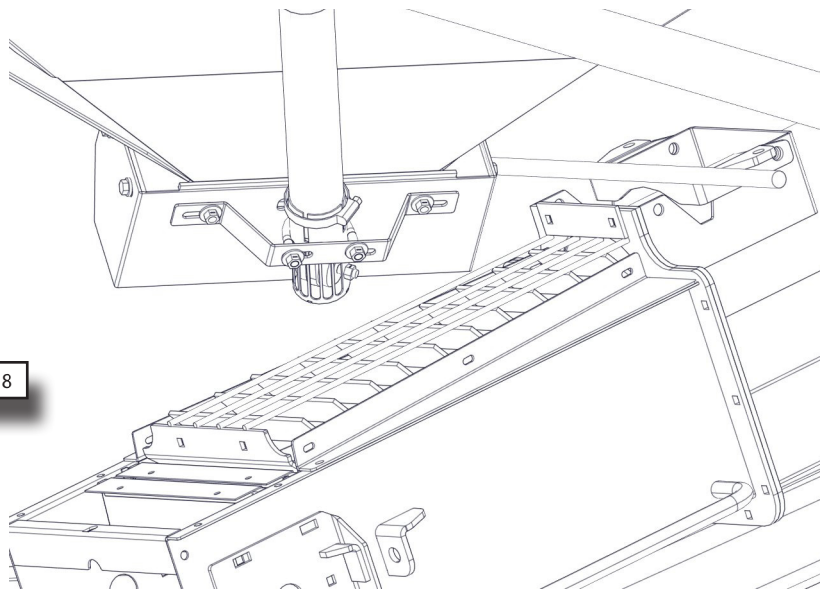

Figure 18
- Fasten the down spout to the chute using the supplied u bolt and hardware. (Figure 18)